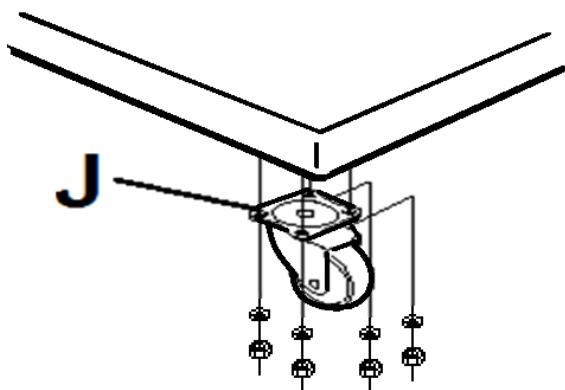

Fig 3
Install four casters (J, Fig 3) to the underside of the base (D) with bolts, nuts and washers.